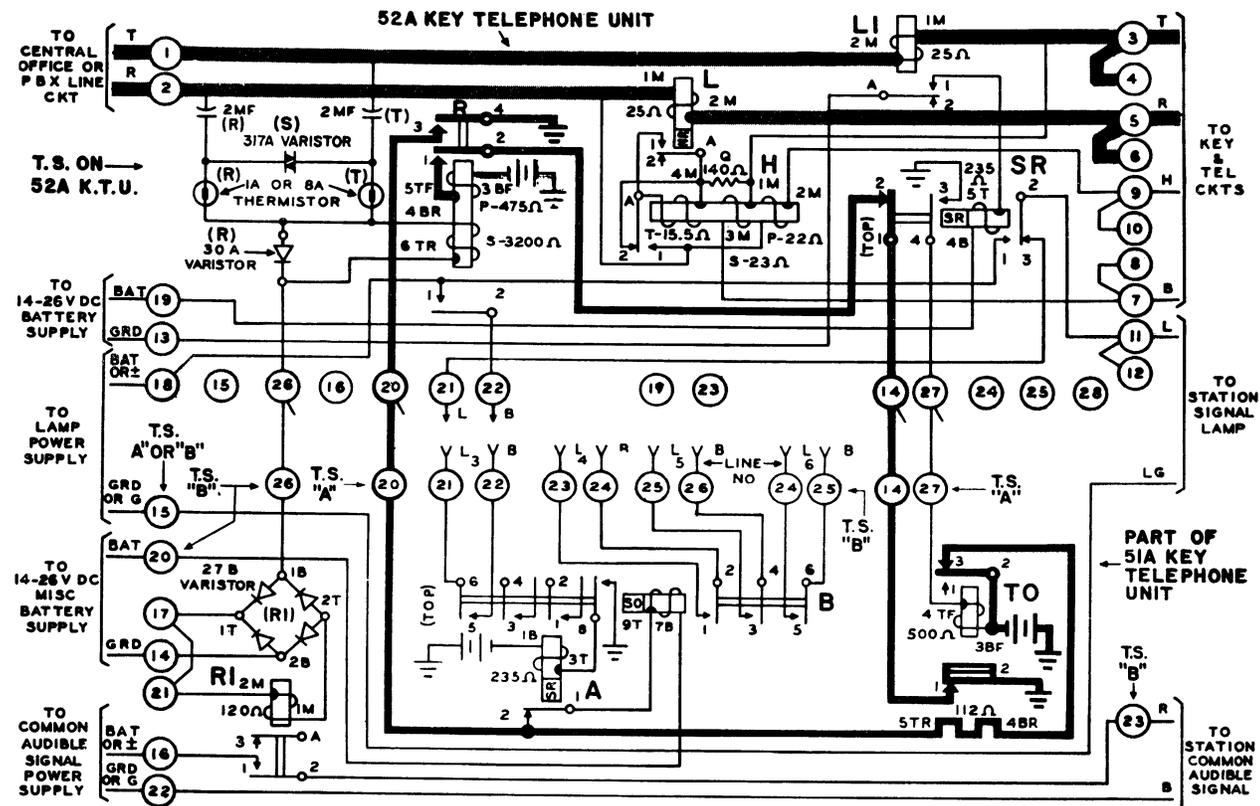

Fig. 7 Time-Out Circuit - 52AKTU
- (g) Fig. 7 Time-Out Circuit for 52A KTU.